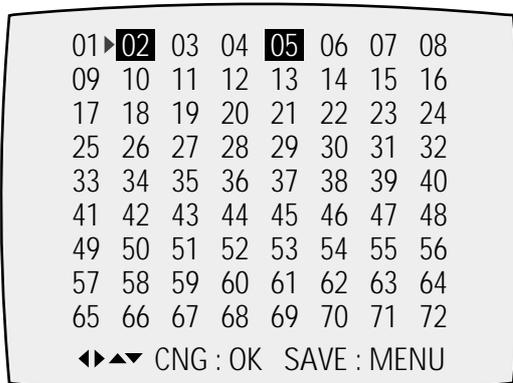

Fig. 2-4
- 2) Press the "MENU" button on the remote control about 5 seconds then option setting display is appeared. (See Fig. 2-4)
- 4) If selecting the option number is completed, press the "OK" button of remote control. (If "OK" button is pressed, the selected number is changes reversed color. ; See Fig. 2-4)